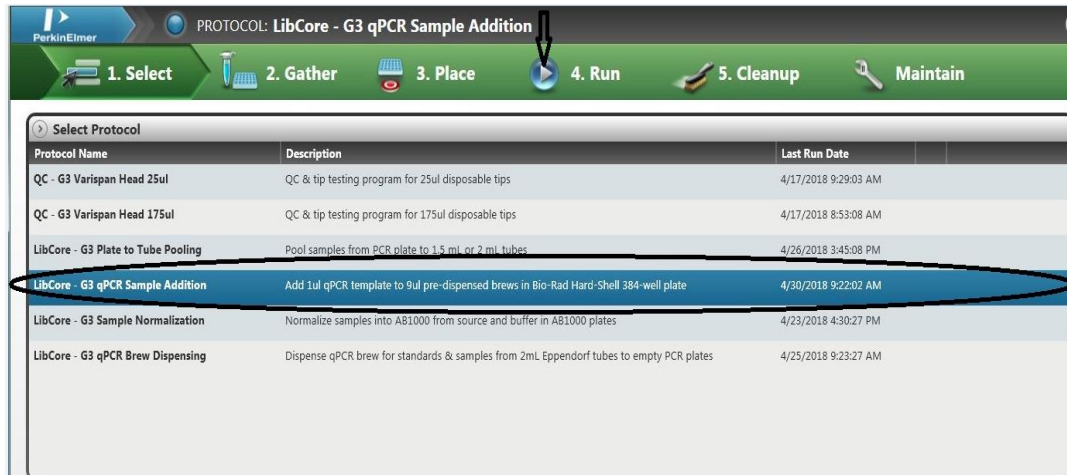

Figure 16: Selecting the protocol for qPCR sample addition
4.9. Once the software is initialized, select the protocol to be run (highlighted in black) i.e. "LibCore - G3 qPCR Sample Addition (see Figure 16).